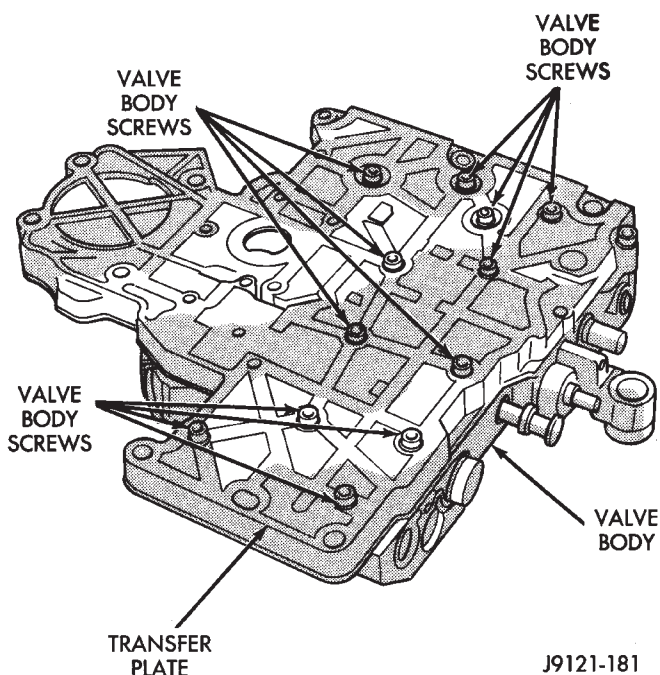

Fig. 107 Valve Body-To-Transfer Plate Screw Locations
(10) Turn valve body over so transfer plate is facing upward (Fig. 107). With valve body in this position, valve body check balls will remain in place and not fall out when transfer plate is removed.
(11) Remove screws attaching transfer plate to valve body (Fig. 107).